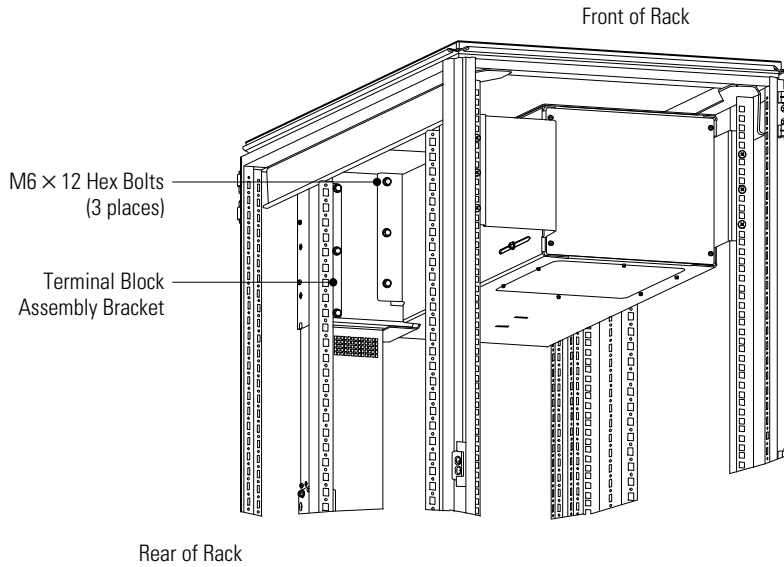

Figure 15. Terminal Block Assembly Installation
10. Note the orientation of the terminal block assembly bracket installed on the bar for later re-installation (see Figure 15). Remove and retain the terminal block assembly bracket and hardware.
12. Secure the bar to the wireway with three M6 × 12 hex bolts. Install the bolts from the **front** of the rack. See Figure 15. Torque the bolts to 5.1 ± 0.8 Nm (45 ± 7 lb in).
13. Reinstall the terminal block assembly bracket removed in Step 10. Install the bolts from the **front** of the rack. See Figure 15. Torque the bolts to 5.1 ± 0.8 Nm (45 ± 7 lb in).